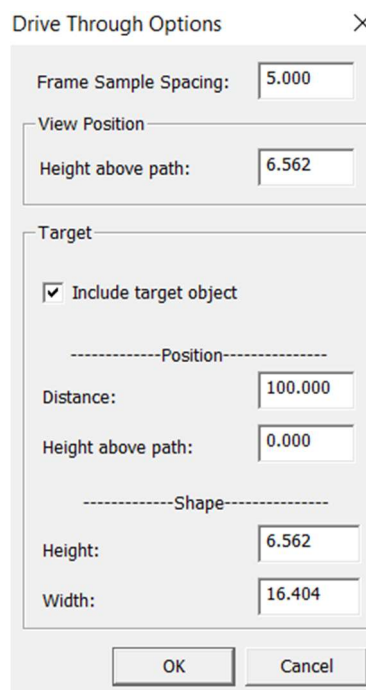

Figure 23-8: Drive Through Options Dialogue Box
5. Press **Options** to bring up the *Drive Through Options* dialogue box as shown in Figure 23-8 below.